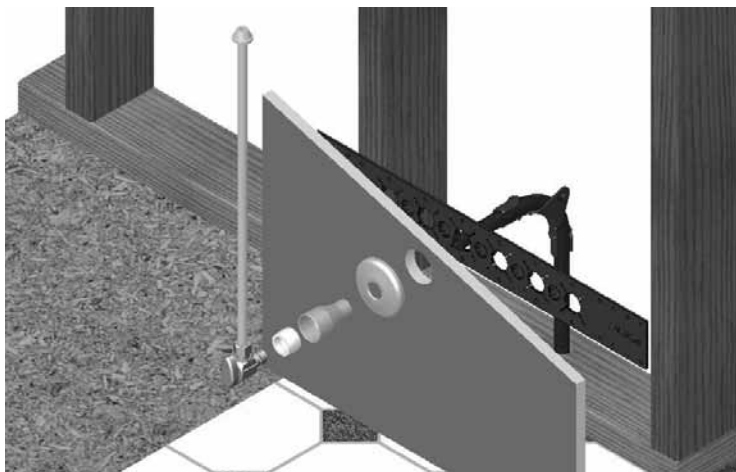

Figure 5-18: Installation Example of ProPEX Out-of-the-Wall Support System
1. Feed the Uponor AquaPEX piping through the wall opening (see **Figure 5-18**).